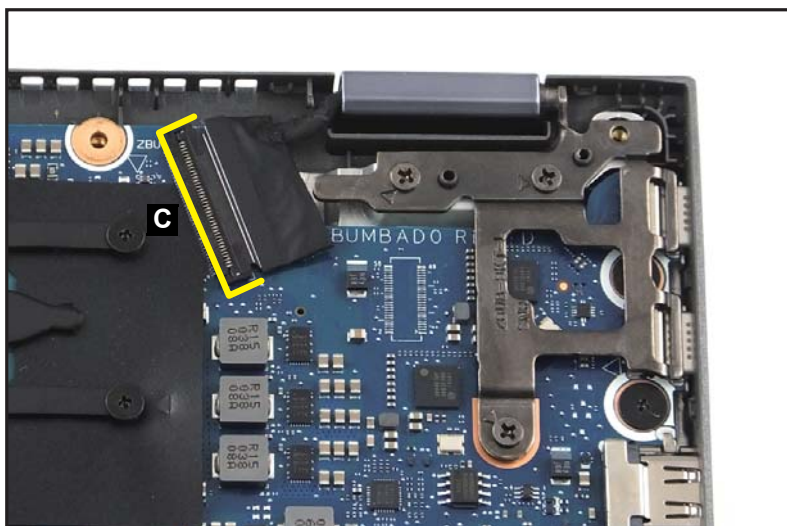

Figure 1-18. LCD Module Removal
3. Disconnect the eDP cable from the mainboard connector (C) (Figure 1-18).